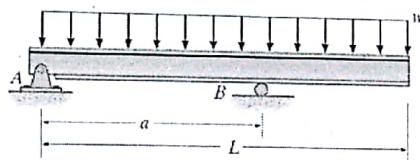

Fig. 6
3. For the beam shown in Fig. 6, determine the placement distance ' $a$ ' of the roller support so that the largest absolute value of the moment is a minimum. Draw the shear and moment diagrams for this condition.